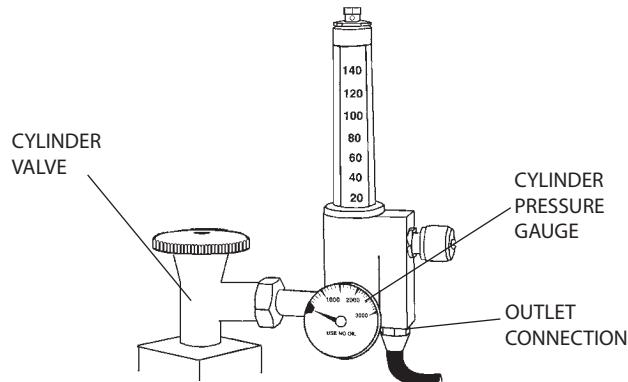

Fig. 3.6 R-33-FM-580 Regulator (Illustrated)
- f. Attach the gas hose from the rear of the Migmaster 250 to the regulator outlet connection (see Fig. 3.6).